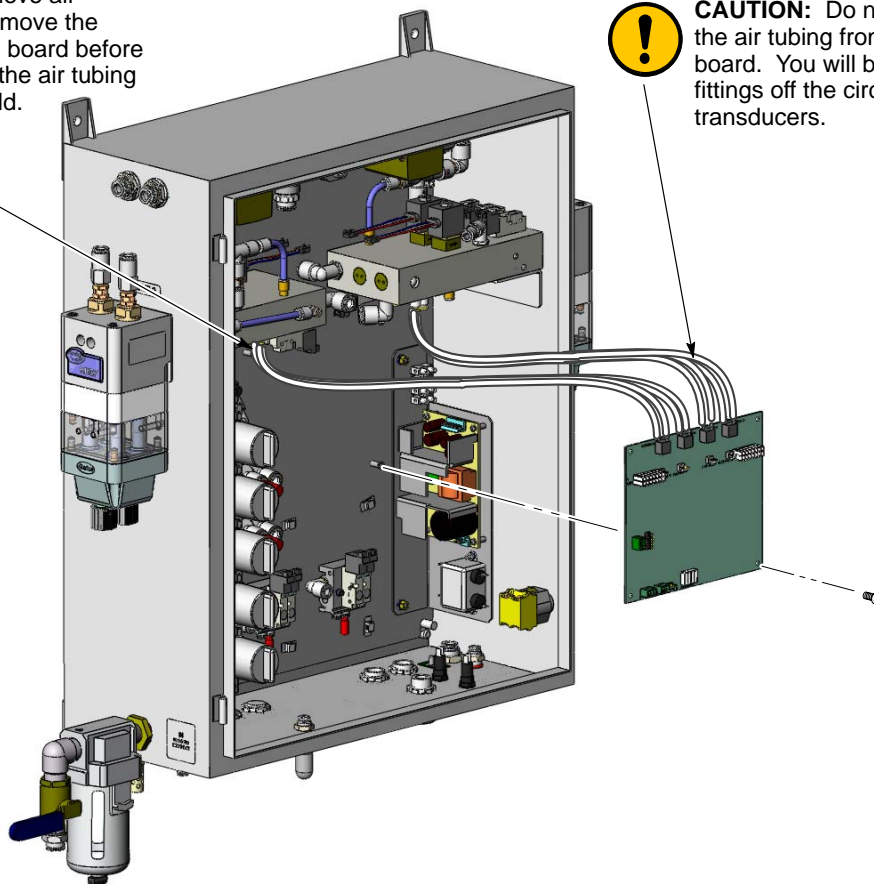

Figure 2 Replacing the Circuit Board
3. See Figure 2. Open the pump panel door and disconnect all wiring harnesses from the circuit board.